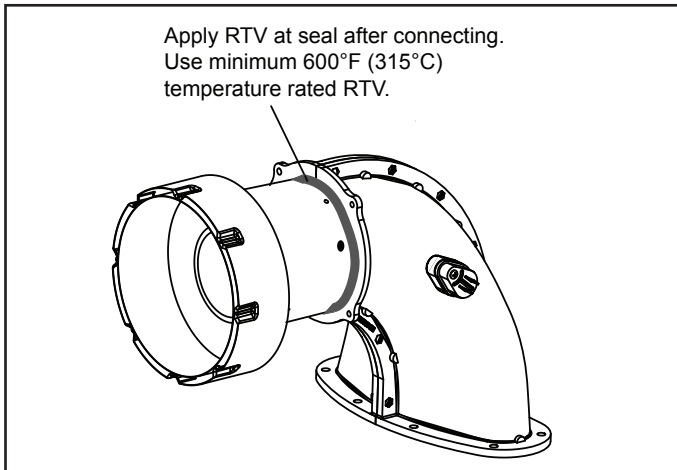

Figure 8. Seal Connection with RTV
6. Apply high temperature silicone RTV at the connection to seal, as shown in "Figure 8. Seal Connection with RTV" on page 12.